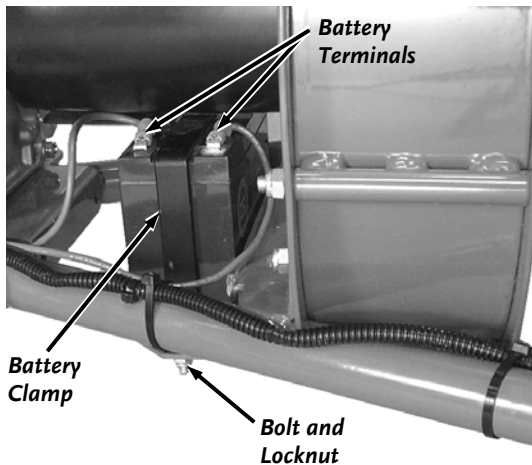

Figure 54
1. Disconnect the Battery Terminals (**Figure 54**).